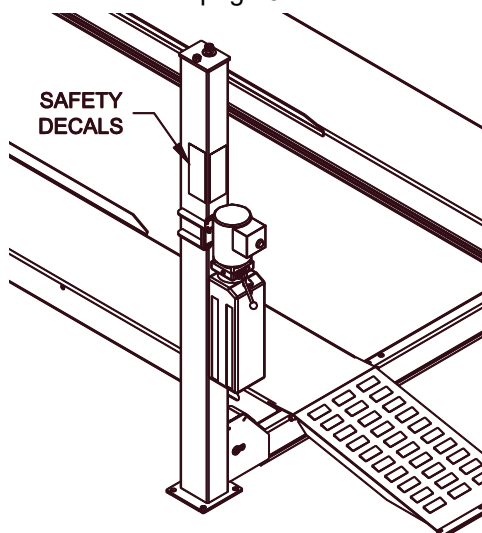

Fig 14 – Safety Decal Placement
- 44) Install safety decals (NOTICE / CAUTION / WARNING) at the power unit as shown in **Fig 14** below. An illustration of these safety decals can be found on page 3.